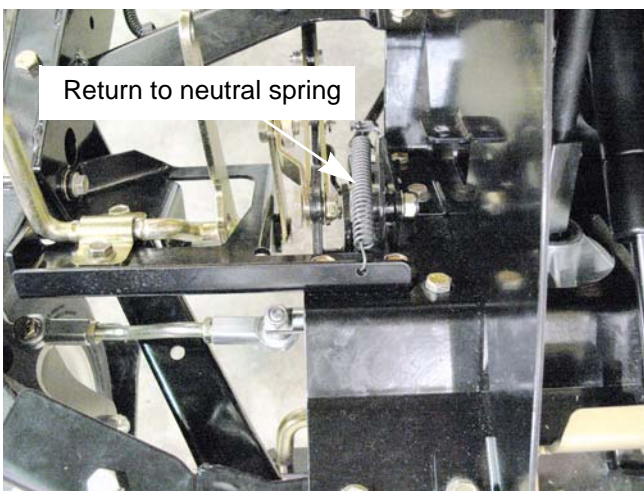

Figure 6.10
- 6 Disconnect the return to neutral spring. See Figure 6.10.